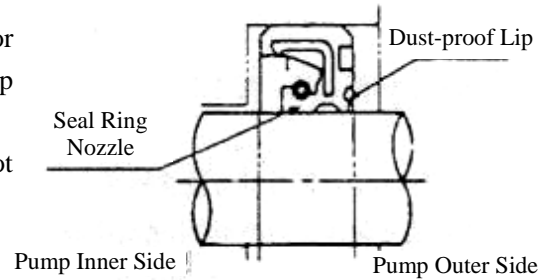

Fig 7-16
(4) Examination of Oil Seal
a) Oil Seal 14: (Refer to Figs 7-18 and 7-19) Oil seal 14 is a combination seal, and the lip at inner side of the pump shaft plays the sealing function, while the lip at the outer side is mainly for dust resistance (as in Fig 7-16). It is mainly required to examine whether or not crack, wear, or distortion exists with oil seal, and it is also required to examine whether or not the elasticity of rubber is enough, and it shall be replaced once it is out of order.